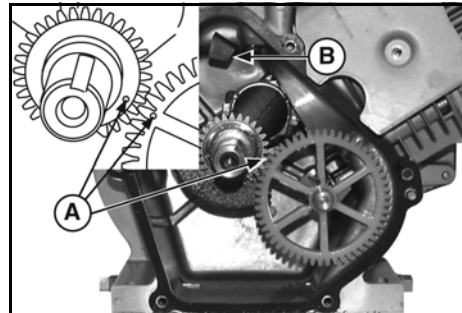

Figure 6
- Install camshaft, making sure tappets clear cam lobes. Timing marks (A, Figures 6, 7, 8) must align.
- On horizontal crankshaft engines, make sure the paddle on the governor shaft (B, Figure 6) is rotated in line with the governor cup inside the crankcase cover.